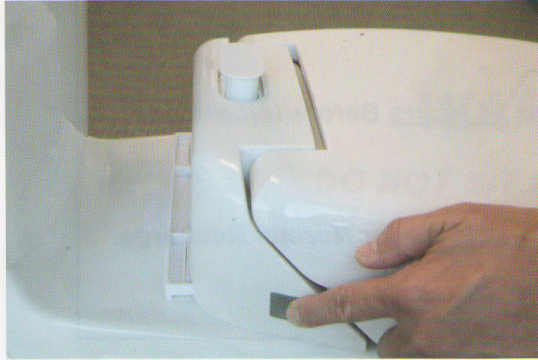

Fig. 20
- 2) Push the gray release button to eject the Battery from the compartment. (Fig 20)